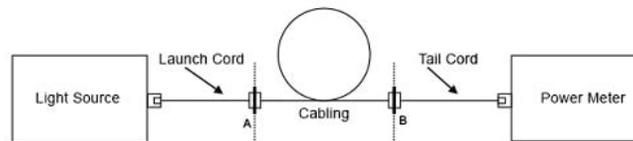
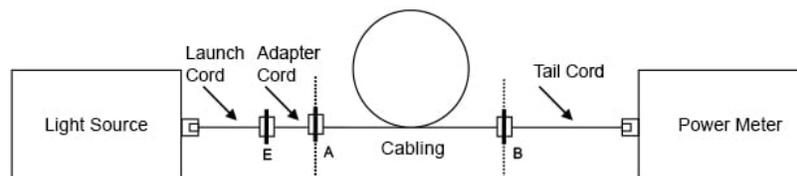

Figure 6a. Measure attenuation for case 1 (plug-adapter and plug on cabling ends)
Figure 6b. Measure attenuation for case 2 (both ends of cabling are socketed)
- b. Make the measurement and compare to the reference measurement (see Figure 6a and Figure 6b).
- c. For case 2, an adapter cord becomes part of the launch cord (see Figure 6b)